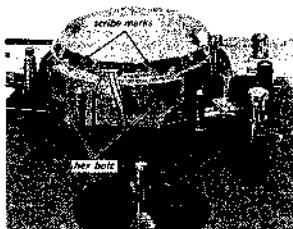

Fig. 4-1. Removal of upper drum
3. Put a reference mark on the upper drum using a scriber and straight edge as shown in Fig. 4-1.
4. Remove the two upper 5 x 20 hex-head bolts as shown in Fig. 4-1, and washers with a 5 mm Allen wrench. Hold the upper drum with one hand so that it does not fall as you withdraw the two screws.